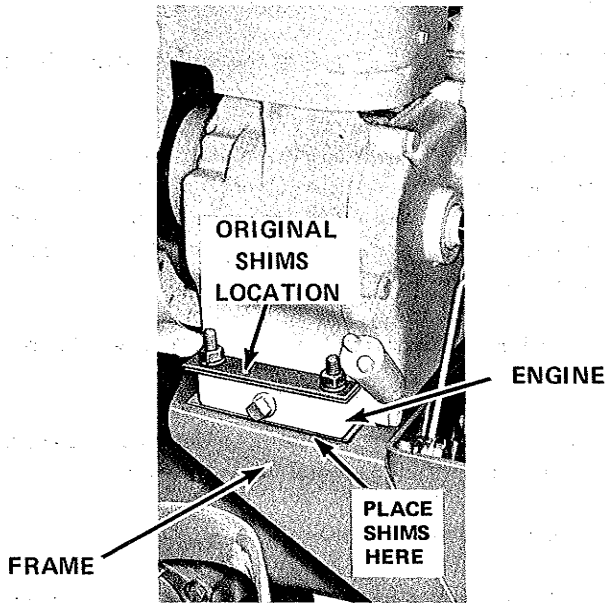

Figure 15.
9. See Figure 15. After some use, drive belts will stretch. If proper clutch action cannot be achieved by clutch adjustment, add one or more shims between the engine and the frame housing. See Adjustment section of this manual.
See Figure 15. Normally belt tension can be adjusted by increasing control rod spring tension (moving wire clamp further up control rod). After some use belts may stretch so that this adjustment cannot be made. If this occurs, loosen engine mounting nuts, slide slotted shims from original location, and slide one or more of them between engine and frame. Tighten engine mounting nuts securely.